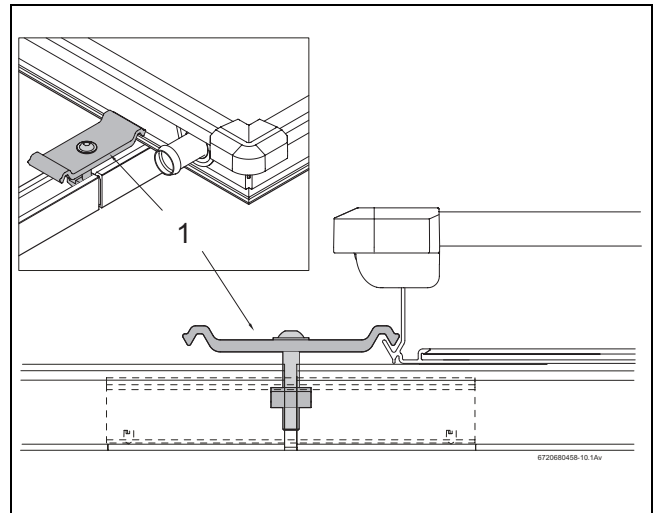

Fig. 40 Fitting the central collector tensioner
- ▶ Place the collector tensioner with the attached nut in the aperture of the profile rail and joiner (Fig. 40, [1]) in such a way that it surrounds the profile rail.